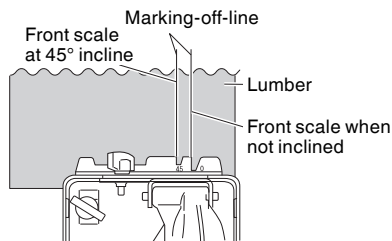

Fig. 6
1. Place the saw body (base) on the lumber, and align the cutting line with the saw blade at the front scale (Fig. 6).